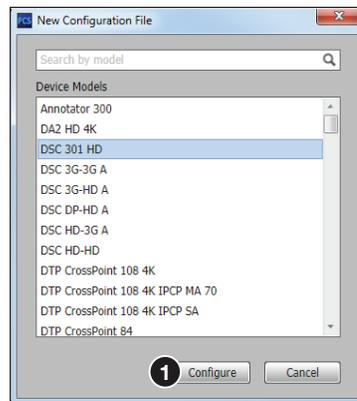

Figure 21. New Configuration File Dialog Box
2. Click the **Configure** button (see figure 21, ❶). A new offline device configuration tab opens.